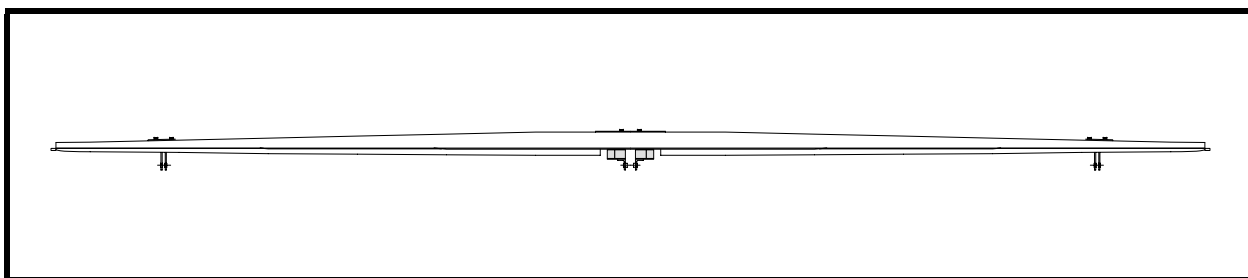

Figure 1
- ❑ Install the triangular strips on the aft face of the stabilizer spar. See Figure 1. Scuff sand the plywood prior to gluing.